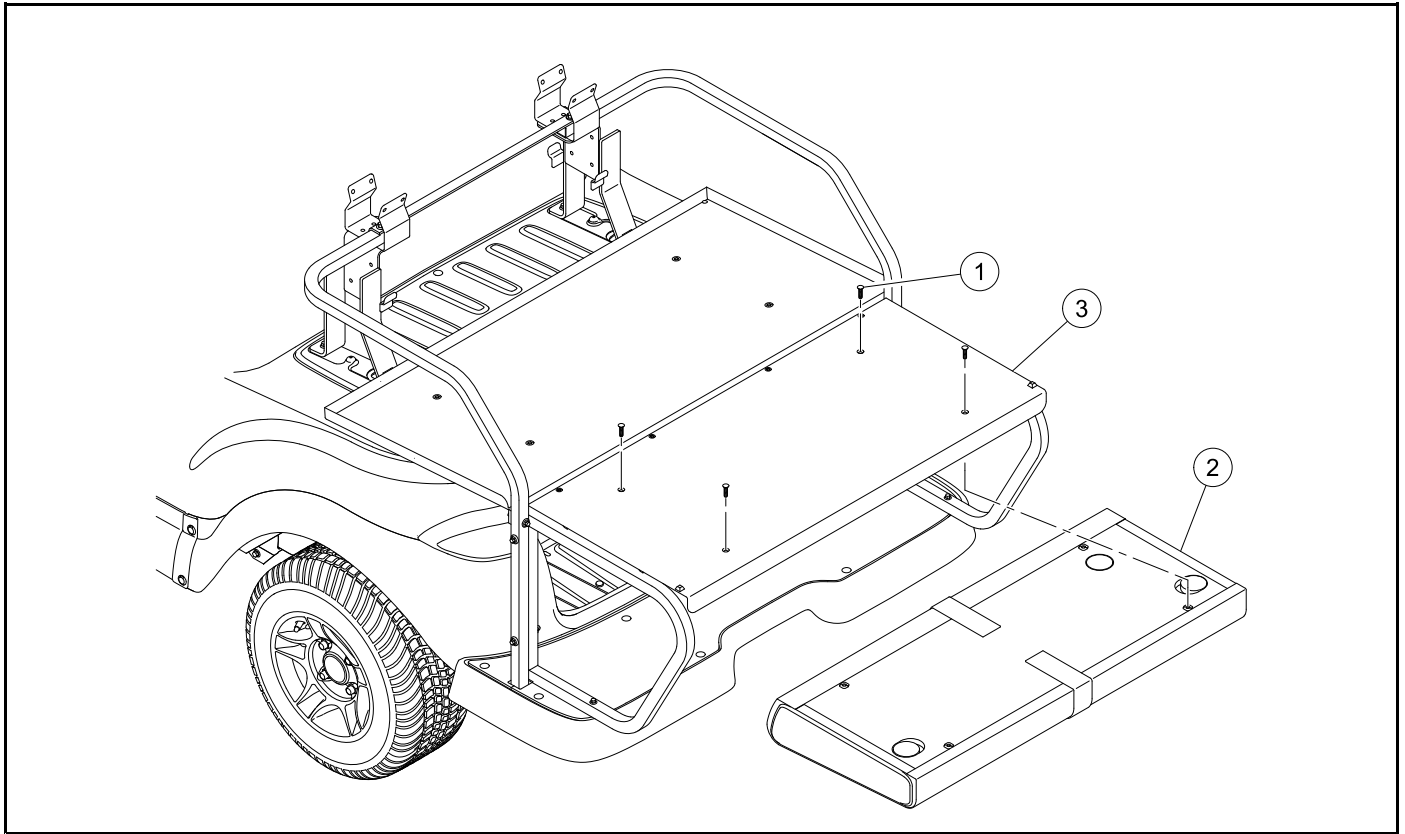

Figure 4-47 Fold-Down Rear Seat Bottom
1. Remove the screws (1) (Figure 4-47).
2. Remove the rear seat bottom (2) from the fold-down hinge (3).
1. Put the rear seat bottom (2) onto the fold-down hinge (3) (Figure 4-47).
2. Install the screws (1). Tighten the screws to 6.6 lb·ft (9 N·m).